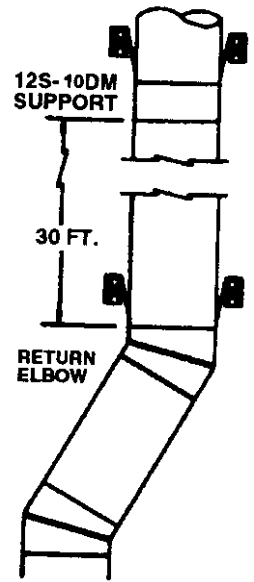

FIG 8
4. The remaining straight flue sections required to reach the building code approved height, or a minimum of 18', should be attached one at a time as they are lowered from the room to the secured elbow on the firebox. Once the offset section is in position, attach the assembled straight flue sections to the top elbow, thereby completing all flue connections. **Make sure that both inner and outer pipe sections are locked; when installing double wall "snap lock" chimneys, it is important to ensure that the joint between the chimney sections is locked.** Check by pulling chimney upward after locking: the chimney will not pull apart if it is properly locked. Screws are not necessary to keep the chimney together. If chimney is 30' or higher, a support section provided by the chimney manufacturer is required after a straight chimney above the fireplace run, or above a return elbow after a straight chimney run. The support is designed to relieve the extra weight load on the fireplace and elbows when high chimneys are installed. See FIG 8.
Firestop spacers are required at each point where the chimney penetrates a floor or ceiling joist space. Their purpose is two-fold: they establish and maintain the required clearance between the chimney and combustible materials, and they also provide complete separation from one floor space to another floor or attic space as required by most codes. When penetrating a floor or ceiling at an angle, the appropriate approved firestop should be used. See FIG 8.